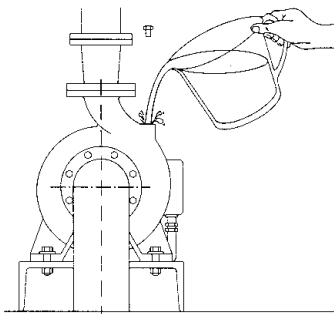

Fig. 8 Filling.
**When the pump is located above the water level** (suction lift operation, **fig. 4**) or with a positive suction head which is too low (less than 1 m) to open the non-return valve, fill the suction pipe and the pump through the priming hole (**fig. 8**). Replace threaded plug after each operation.